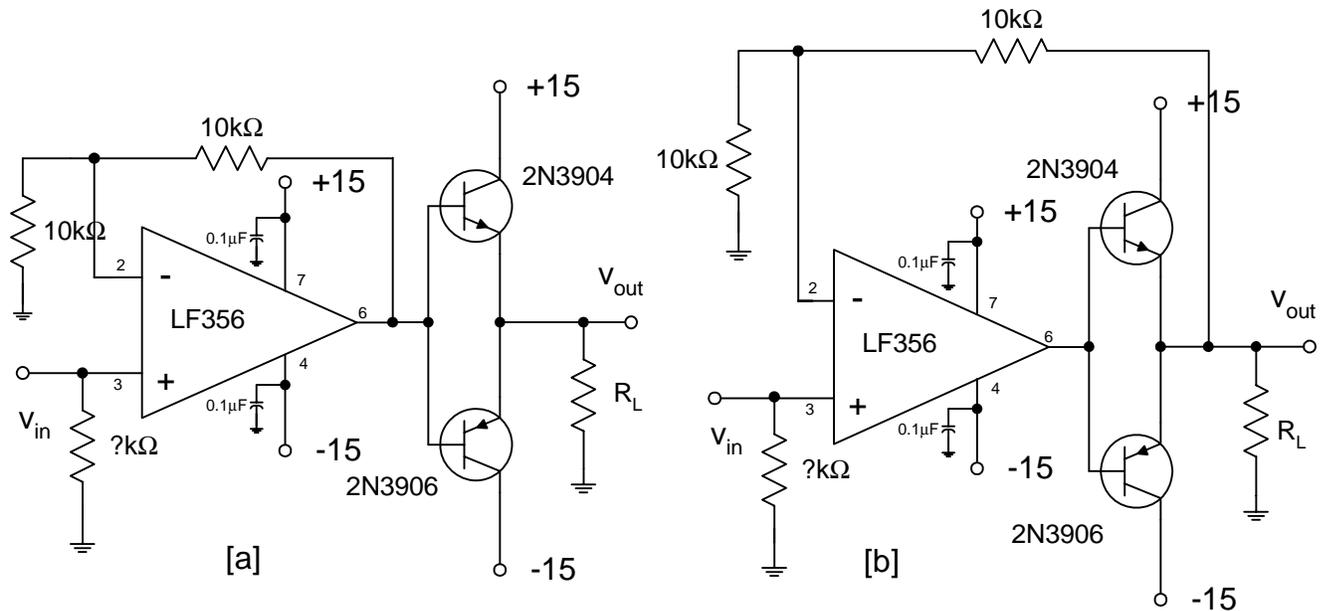

Figure 5: Push-pull output stage circuits.
2. As indicated in the data sheet, the LF356 op amp can supply a maximum output current of approximately 25 mA [the LF356 is short-circuit protected to limit its output current to a value that will not destroy the device]. Figures 5[a] and [b] show two circuit configurations in which a push-pull output stage [consisting of a 2N3904 and a 2N3906 transistor] has been added to the output of the LF356. According to the data sheets, each of these transistors can supply up to 200 mA and can dissipate a total power of up to 350 mW.
Q 5.3 How does the feedback used in the circuit of Figure 5[b] help this circuit to work?
Increase the input amplitude to 1.0 V p-p. Again compare the two output waveforms. Notice the distortion [known as crossover distortion] on the output of the circuit of Figure 5[a].
Q 5.5 How does the configuration of Figure 5[b] greatly reduce the level of this distortion?
- **Q 5.6** What is the minimum value of load resistor R_L that can be used in the circuit of Figure 5[b] without exceeding the power dissipation capabilities of the output transistors? [To avoid damage to the transistors, it is a good idea to limit the power dissipation in these transistors to a maximum of 200 mW.] Use this value of load resistor and verify that the circuit can indeed drive this load resistor through the complete range of the supply voltage. [Hint: You may have to use 10 nF or 100 nF bypass capacitors between the op-amp plus and minus supplies and ground to keep your circuit from oscillating for this test.] Now remove the push-pull output stage and drive the load resistor directly from the LF356 [connected as a voltage follower].